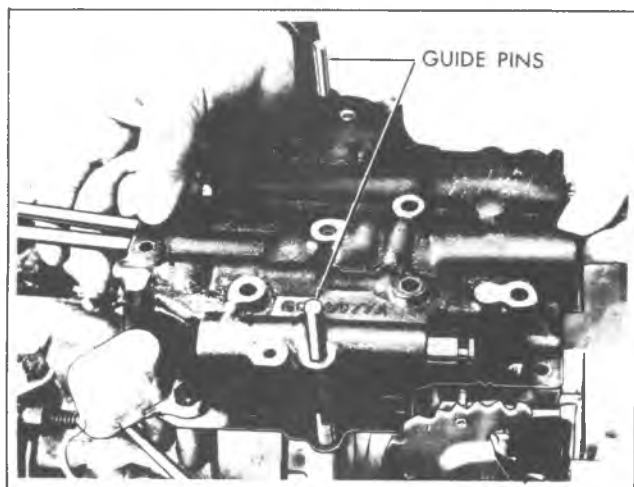

Fig. 7A-184C--Installing Control Valve Assembly and Governor Pipes
5. Remove guide pins and install detent roller and spring assembly and remaining bolts (Fig. 7A-185C).